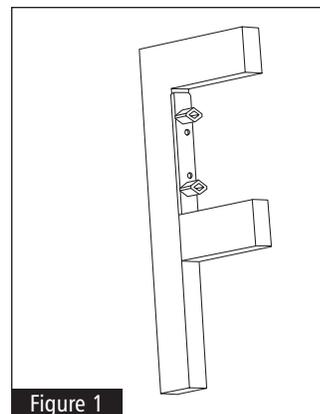

Figure 1
- 1** Locate DDF Fastener Male on frame as shown. Place part against lower horizontal with the lip of the part overlapping the front edge of the frame. Drill pilot holes 3/32" diameter, 3/8" deep. Attach each part with 2 screws provided. See Figure 1.